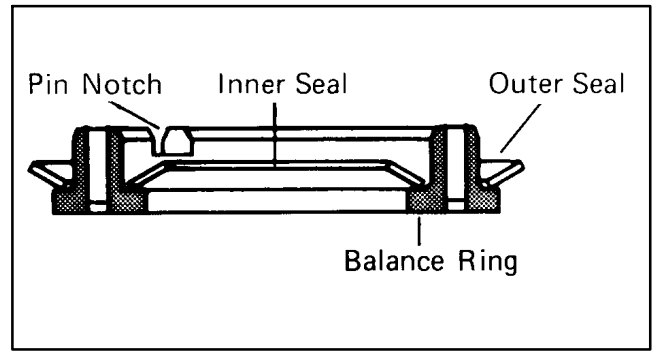

Figure 85
37. Apply petroleum jelly to inner and outer face seals. Install seals on balance ring as shown in Fig. 85.
IMPORTANT: Install face seals in the positions shown in Fig. 85. or the motor will not operate properly. Do not force or bend the face seals. Any damage to these seals will affect the operation of the motor.
NOTE: Install face seals in the positions shown in Fig. 85. or the motor will not operate properly. Do not force or bend the face seals. Any damage to these seals will affect the operation of the motor.